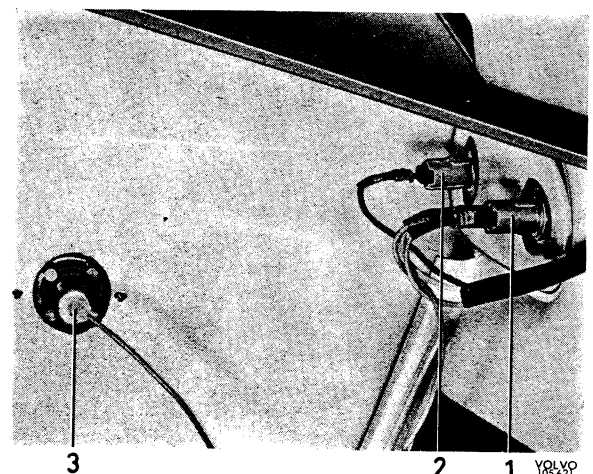

Fig. 3-88. Rear light connection contacts
3. Disconnect the cables at the connectors, see Fig. 3-88.